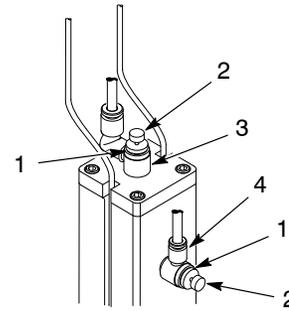

Figure 4 Adjusting a Control Valve
1. See Figure 4. Loosen the locking collar (1) on the dispense valve (3).
2. Turn the knob (2) clockwise until it bottoms out into the dispense valve (3). Back out the knob two turns.
3. Tighten the locking collar (1) securely.
4. Perform steps 1 through 3 for the load control valve (4).